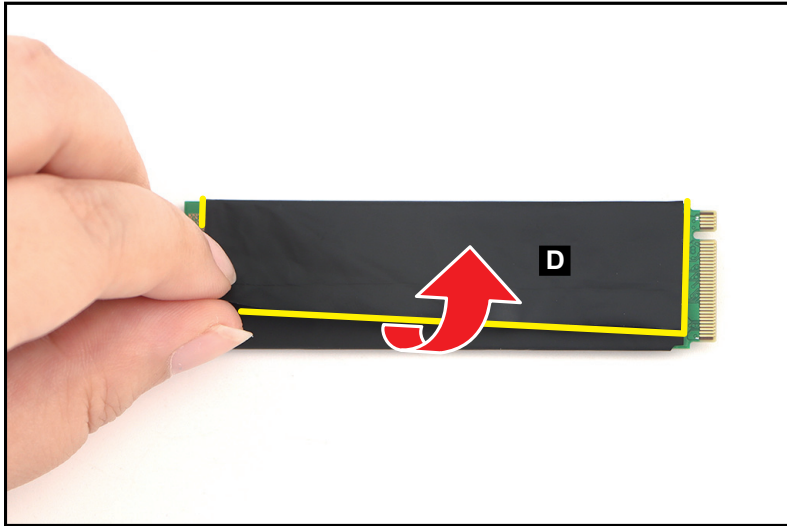
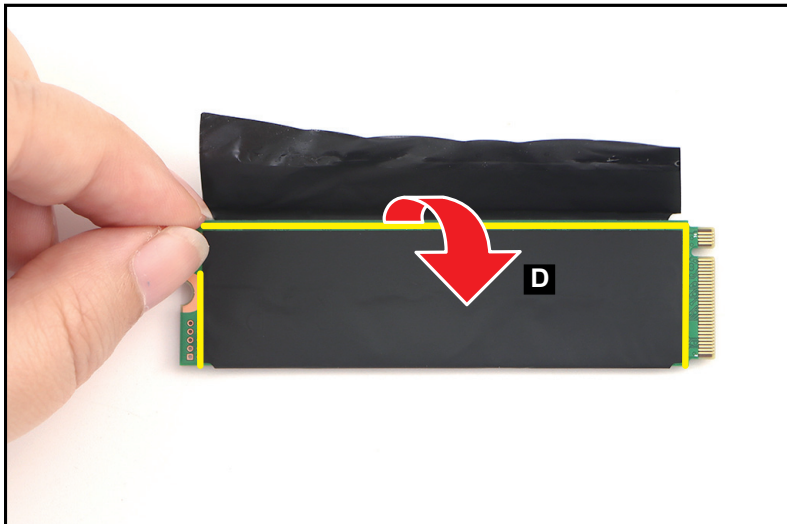

Figure 1-19. SSD Module Removal
Figure 1-20. SSD Module Removal
6. By holding the upper edge of the copper foil with mylar (D), unfold and detach it from the SSD module as shown in Figure 1-19 and Figure 1-20 but DO NOT remove yet!